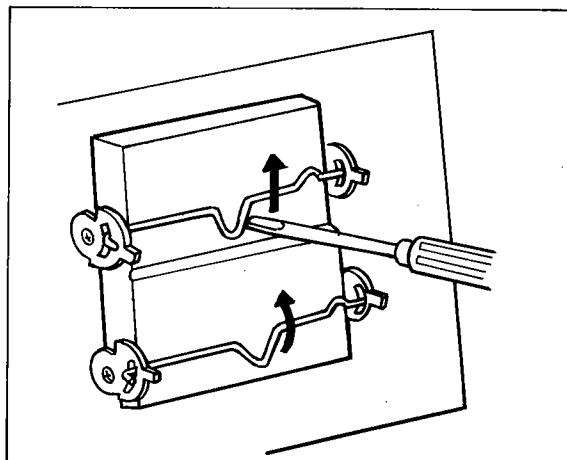

Fig. 2-3. VU meter removal
1. Remove the front panel as described in Procedure 2-1, then pry out the VU meter clamp with a screwdriver as shown in Fig. 2-3.